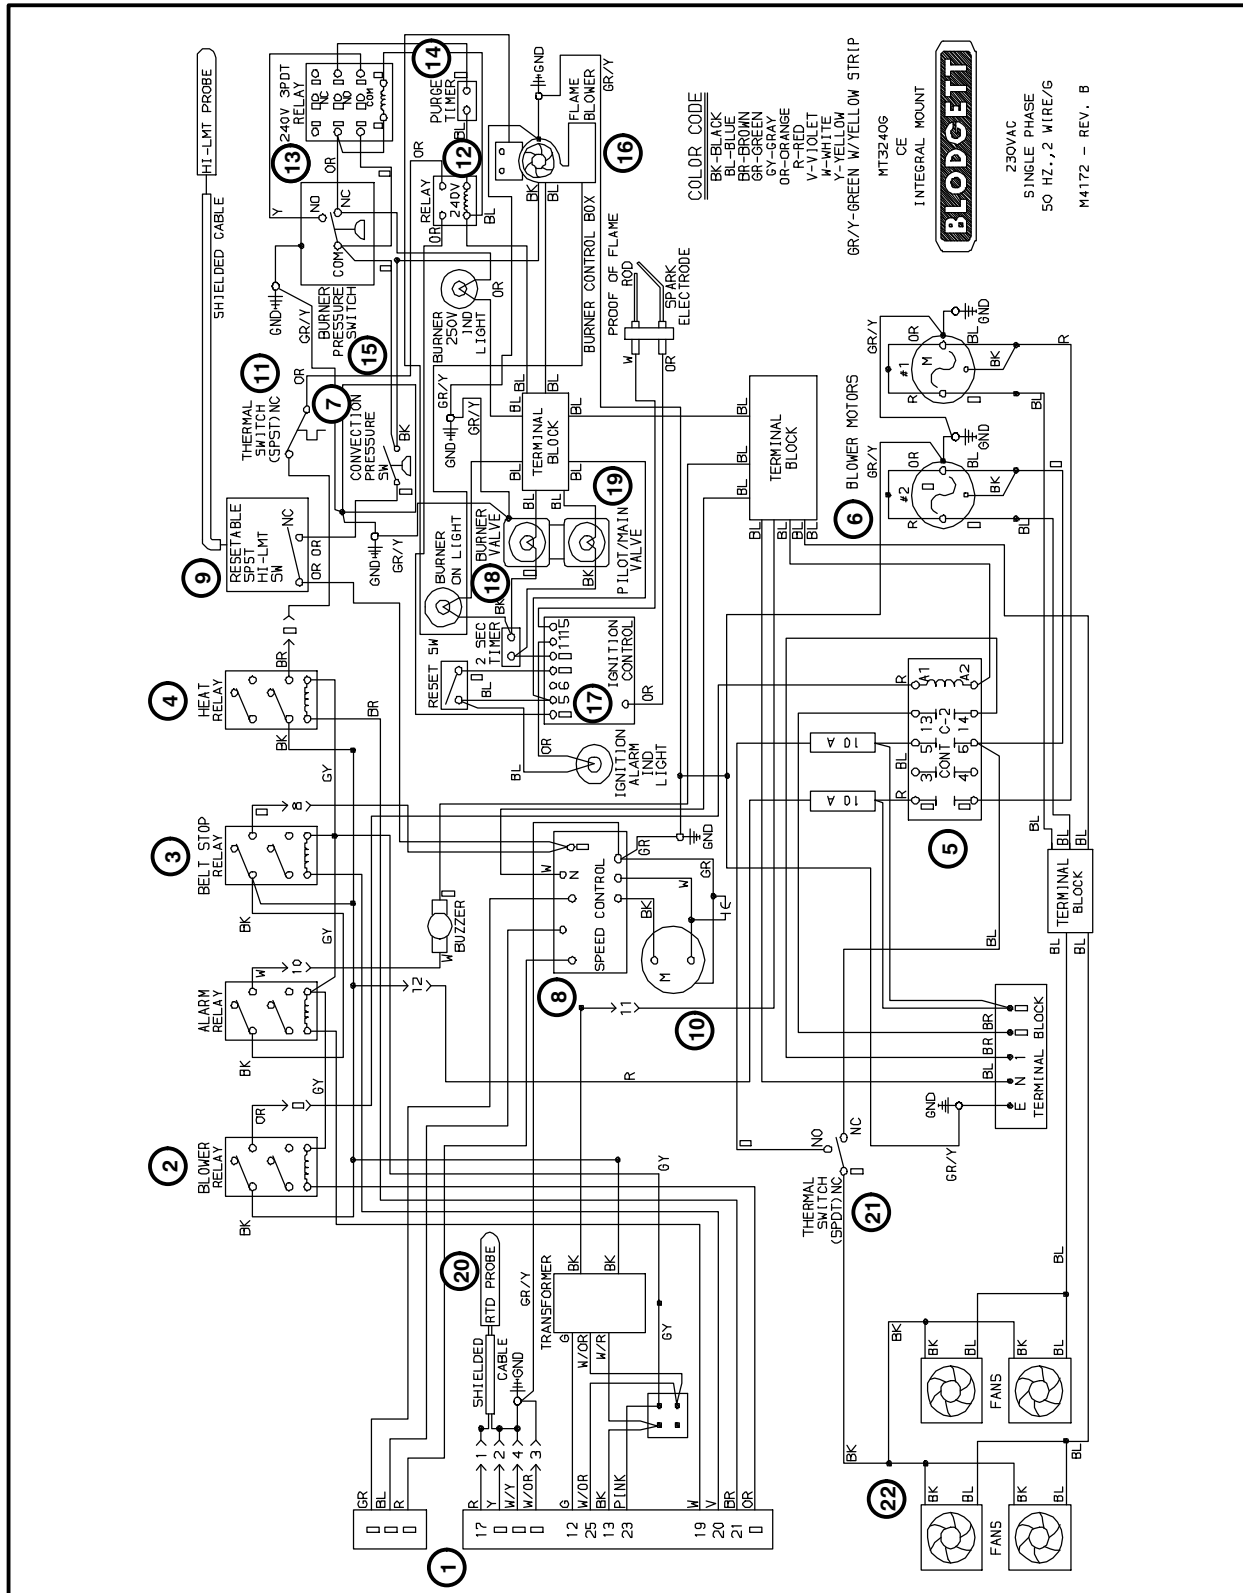

FIGURE 7
*NOTE: Refer to FIGURE 7 page 2–15 for component locations.*